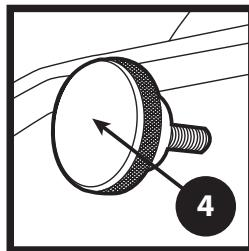

FIGURE 8
- a. If the abrasive belt does not remain centered on the contact wheel while the belt is moving use the Tracking Adjustment Knob (Figure 8) on the upper left side of the machine to track the belt. Turn this control clockwise to cause the belt to track to the left; conversely, turn the control counterclockwise to cause the belt to move to the right.